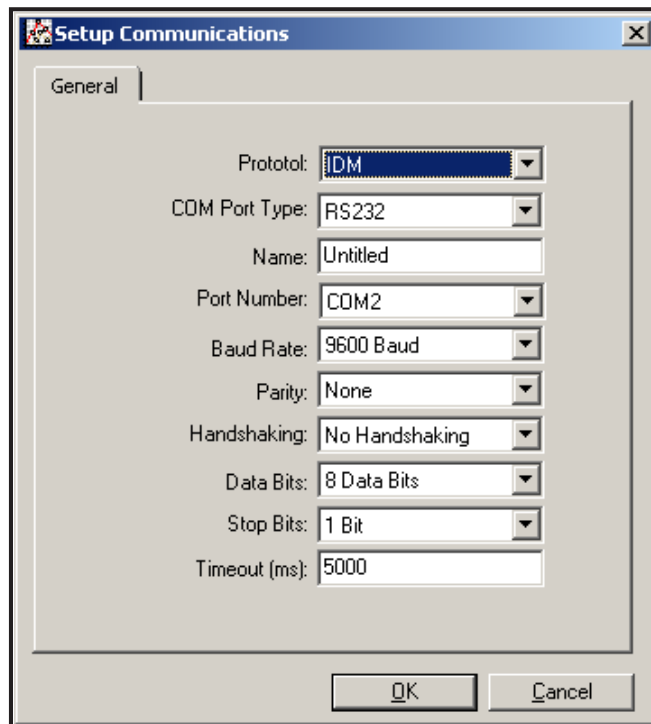

Figure 34: Setup Communications Screen
- Click on the *Communications Port* option to select it. The *Setup Communications* screen appears similar to Figure 34.